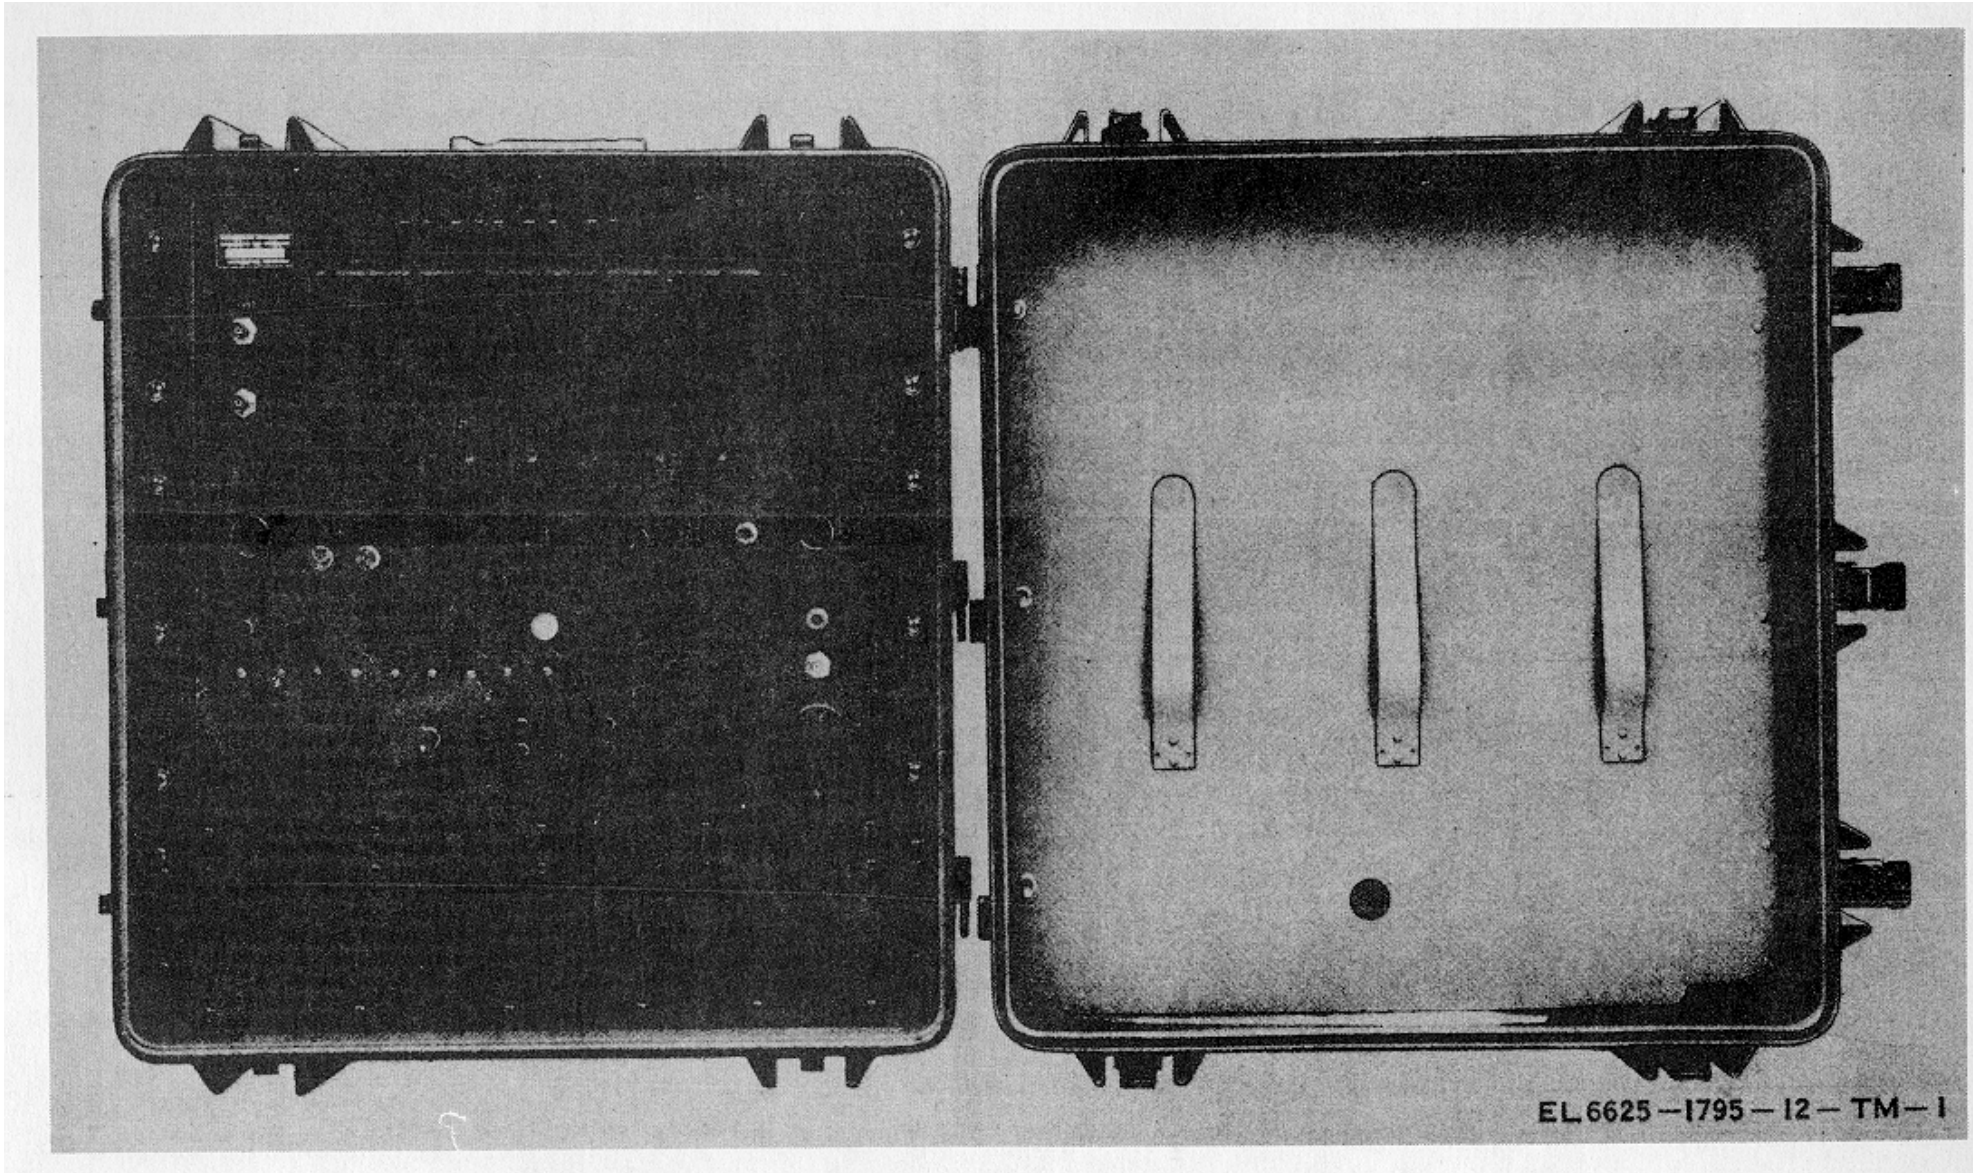
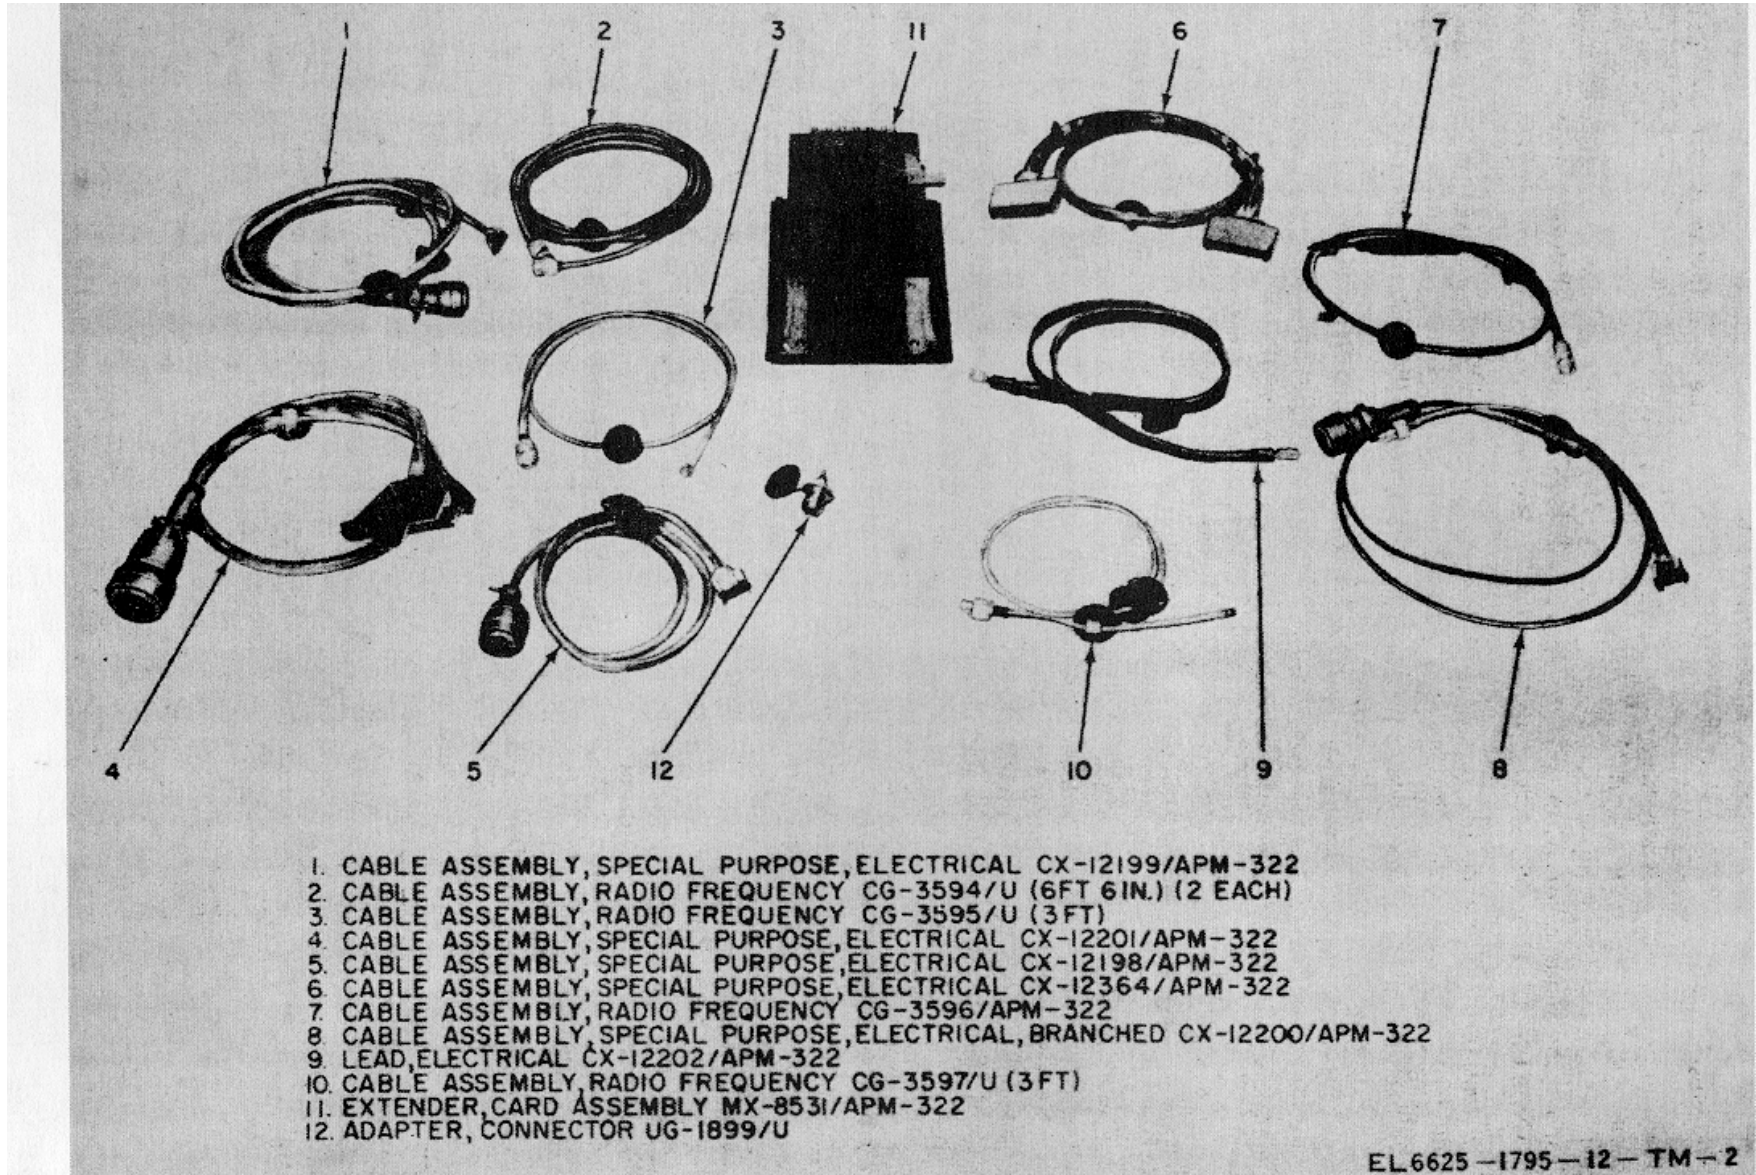

Figure 1-1. Test Set, Radar Altimeter Module AN/APM-322.
Figure 1-2. Cable assemblies and accessories supplied with Test Set, Radar Altimeter Module ANVIAPM-322.
a. This manual describes Test Set, Radar Altimeter Module AN/APM-322 (module test set) (figs. 1-1 and 1-2) and covers its installation, operation, and organizational maintenance. Included are instructions for operation under usual and, unusual conditions, cleaning, inspection, troubleshooting, and replacement of assemblies available to the operator and organizational technician. The maintenance allocation chart is included as Appendix B.
The module test set consists of Test Set, Radar Altimeter Module TS-2932/APM-322 (fig. 1-4), contained on a panel assembly and mounted in Case, Test Set CY-6789/APM (fig.1-1).Test cables and Extender, Card Assembly MX-8531/APM-322 (fig. 1-2) are also mounted in the case.